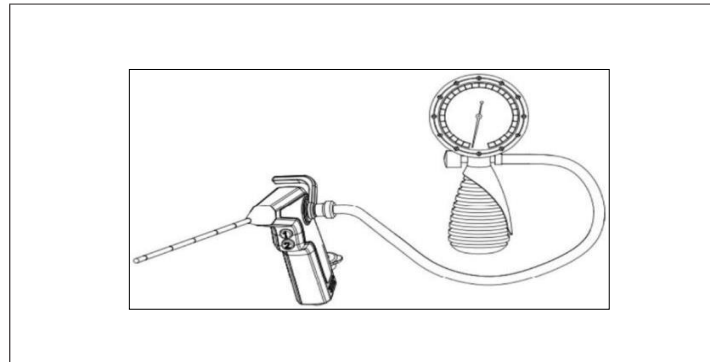

Fig 7.7
3. Attach pressure compensation cap connector of the leakage tester to the endoscope connector, and make sure it is in place (as shown in Fig 7.7).